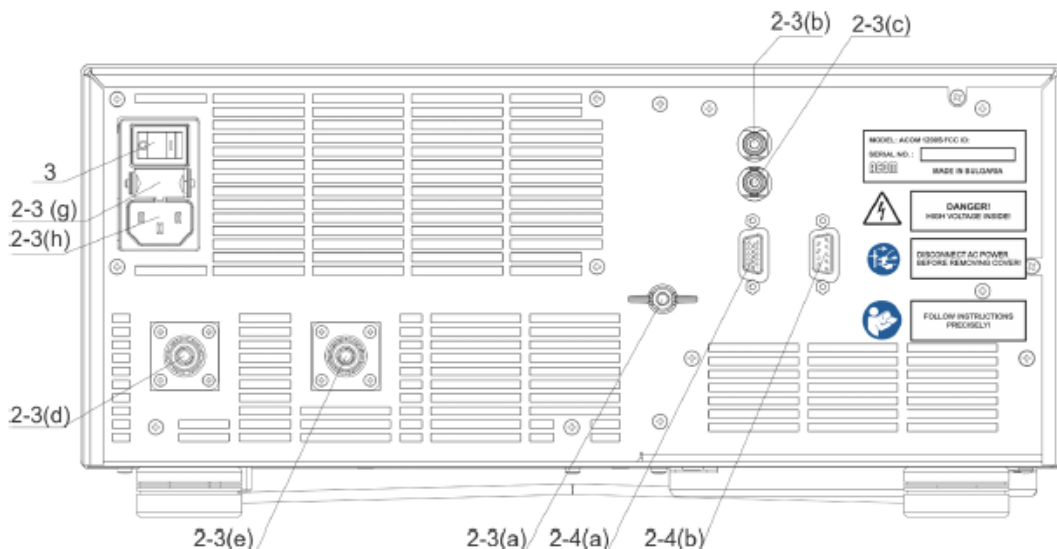

Fig. 2-1 Rear panel connections
- a) GND stud - First connect the grounding stud of the amplifier (located on the rear panel and marked GND – Fig. 2-1) to the grounding system of the shack.
Run a shielded cable from the output of your transceiver, providing "ground on transmit", to the KEY-IN input on the amplifier rear panel (RCA PHONO jack – Fig. 2-1). Use a standard RCA PHONO plug for connection to the amplifier.